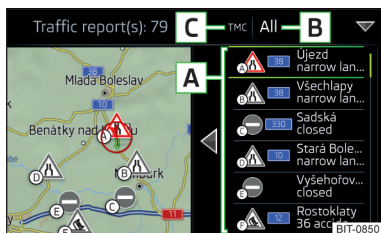

Fig. 241
» Fig. 241.
On the position » Fig. 241 can the following symbols are displayed.
- ▶ **Route guidance is taking place** - After tapping function surface » Fig. 241 in the displayed menu, you can select all traffic messages by tapping the function surface **All areas**, or you can select only the traffic messages present on the route by tapping the function surface **Route**.